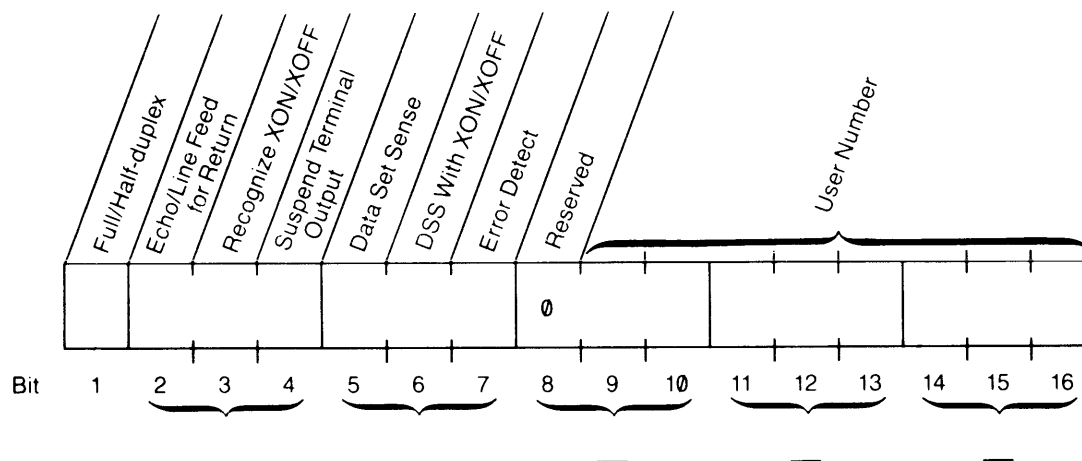

FIGURE A-1. AMLC Octal Bitstring Templates
2. Select the appropriate values from the list for each parameter and fill in the blanks for each bit in the *config_word* template (Figure A-1).
3. Write the octal value for each block of zeros and ones in the template in the spaces provided. A conversion table is supplied in Figure A-1 for your convenience.
The *config_word* is a composite of sixteen bits, each one having its own meaning as described below. Use the template in Figure A-1 to construct a *config_word* beginning at the left, with bit 1.
The *lword*, like the *config_word*, is a composite of sixteen bits, each one having its own meaning as described below. Use the template in Figure A-1 to construct an *lword* beginning at the left, with bit 1.